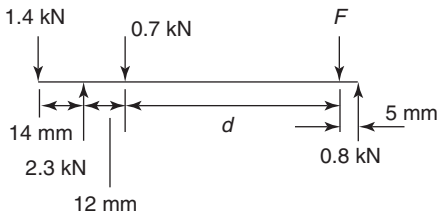

Figure 5.17
2. For the force system shown in Figure 5.17, find the values of F and d for the system to be in equilibrium. [1.0 kN, 64 mm]